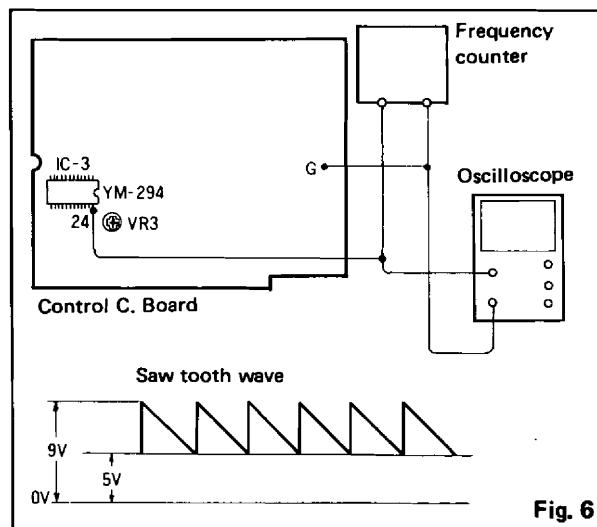

Fig. 6
1. As in Fig. 6, connect a frequency counter and an oscilloscope to the 24th pin of IC3 in order to confirm that the frequency is at $128\text{Hz}\pm1\text{Hz}$, and that the waveform is a saw tooth wave (regard these as standard conditions).